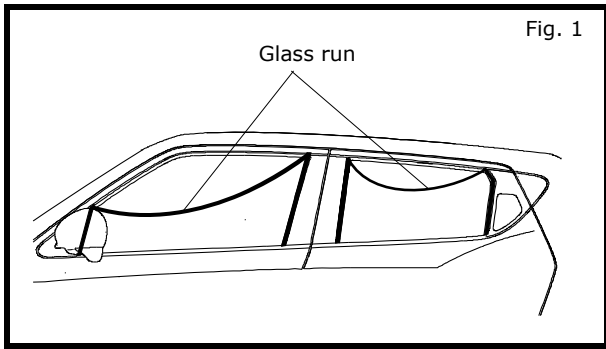

Fig. 1
- 2) Pull down upper portion of glass run. See Fig. 1.